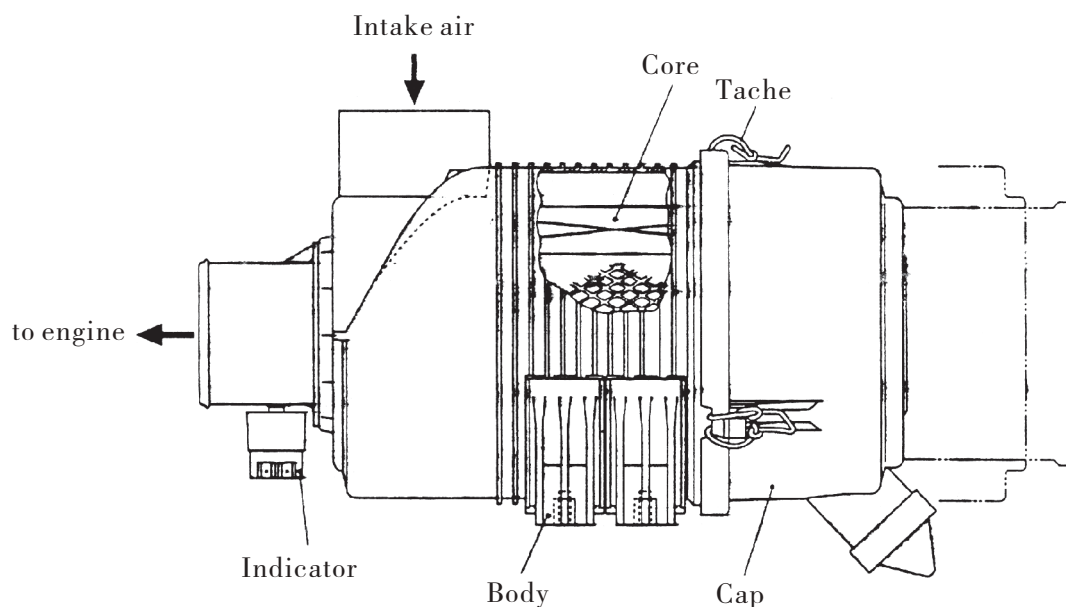

Fig.1.5 Air cleaner
1.5.1 For air filter, please See Fig. 1.5.